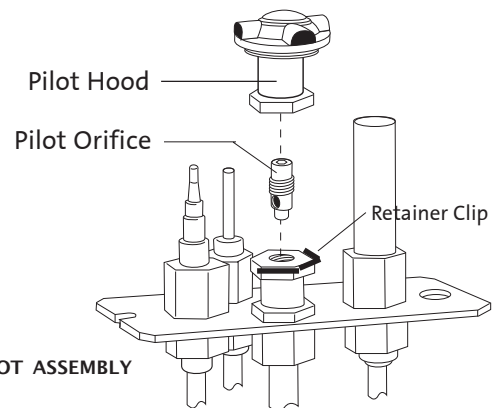

Figure 32. Pilot Orifice replacement.
- FROM WITHIN THE FIREBOX, disengage the Pilot Hood by releasing the retainer clip as shown in fig. 32. Using the 4 mm hex key supplied, unscrew the pilot orifice (counter-clockwise). Replace with the appropriate orifice: